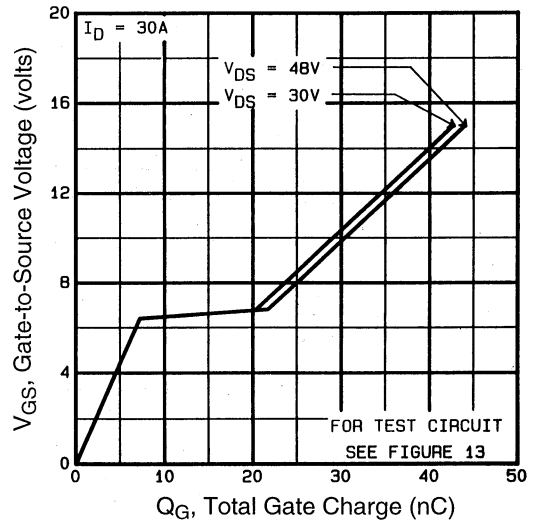

Fig 6. Typical Gate Charge Vs. Gate-to-Source Voltage
| Q_{gd} | Gate-to-Drain ("Miller") Charge | — | — | 22 | | $V_{GS} = 10V$, See Fig. 6 and 13 ④ ⑤ |